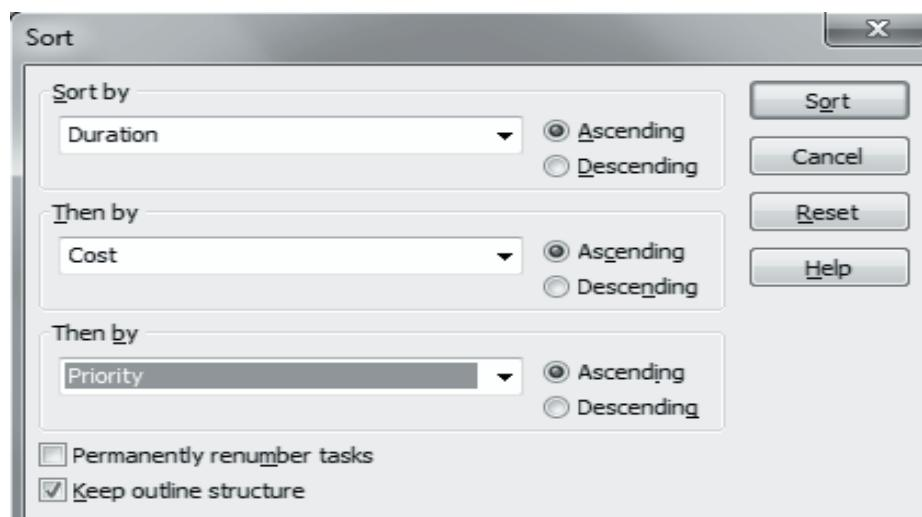

Figure 9.11: Sorting Project Details Using Sort by Option
2. Click **Sort by** option in the drop-down list to display the **Sort** dialog box as shown in figure 9.11.